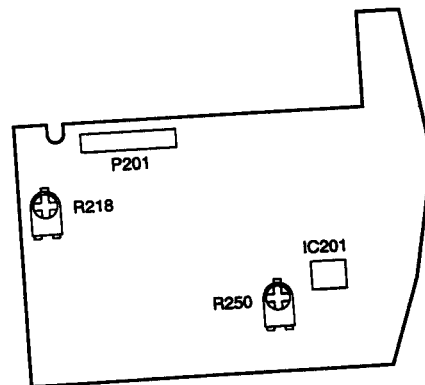

Fig. 5-4 AF PCB
- 2) Set the audio oscillator output to  $-20$  dB $\mu$ , 300 Hz and adjust R250 on the AF PCB for a deviation of  $4.5$  KHz  $\pm$  300 Hz. (See Fig. 5-4.)